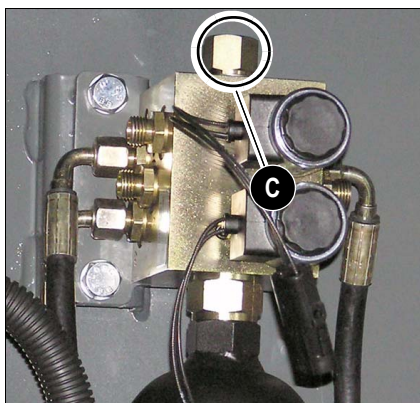

Fig. 18: Pressure reducing valve
1. Adjust the pressure at the pressure reducing valve (PREV 4) on the control oil unit (C), Fig. 18. See *Hydraulic system* on page 2-3 for pressure values.